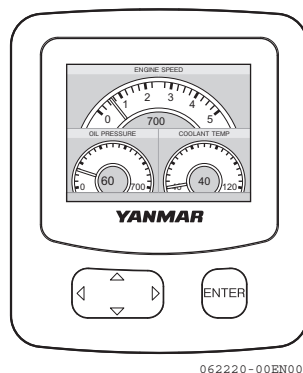

Figure 38
- When the engine starts, the VC20 display will show the screen with engine conditions (**Figure 38**).